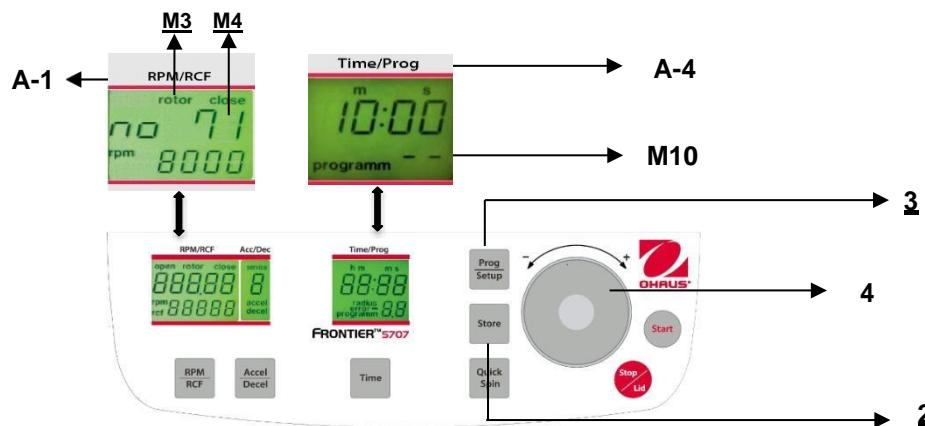

Figure. 23
To recall stored programs press the key "**Prog/Setup**" (3) (refer to figure 23) while the lid is already closed. Inside the display "**Time/Prog**" (A-4), "**programm --**"(M10) appears. The desired program number can be pre-selected with the adjusting dial (4).
To leave the program mode just press the key "**Prog/Setup**" (3) (refer to figure 23). Then inside the display "**Time/Prog**" (A-4) the word "**programm**" (M10) appears.